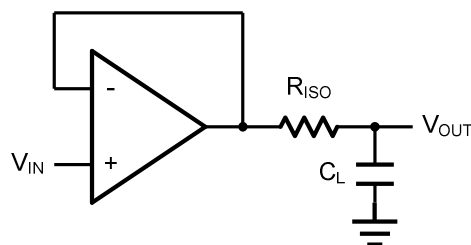
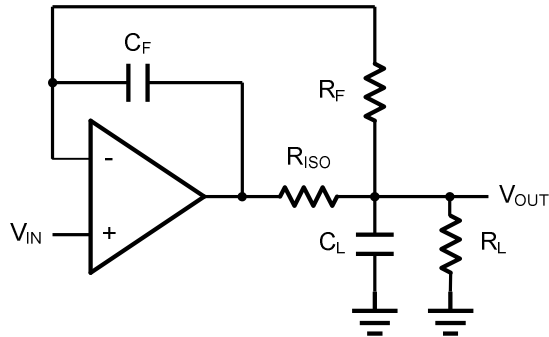

Figure 2 Indirectly Driving a Capacitive Load Using Isolation Resistor
Figure 3. Indirectly Driving a Capacitive Load with DC Accuracy
The LMV321 family is optimized for bandwidth and speed, not for driving capacitive loads. Output capacitance will create a pole in the amplifier's feedback path, leading to excessive peaking and potential oscillation. If dealing with load capacitance is a requirement of the application, the two strategies to consider are (1) using a small resistor in series with the amplifier's output and the load capacitance and (2) reducing the bandwidth of the amplifier's feedback loop by increasing the overall noise gain. Figure 2 shows a unity gain follower using the series resistor strategy. The resistor isolates the output from the capacitance and, more importantly, creates a zero in the feedback path that compensates for the pole created by the output capacitance.
The circuit in Figure 3 is an improvement to the one in Figure 2.  $R_F$  provides the DC accuracy by feed-forward the  $V_{IN}$  to  $R_L$ .  $C_F$